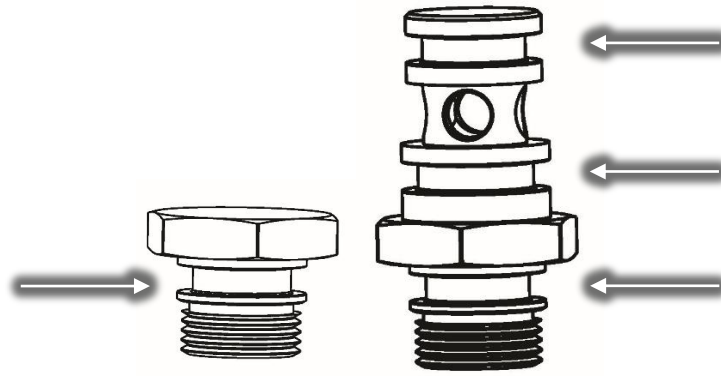

Figure 3 – O-Ring Grooves
6. Clean the O-ring grooves in the Plug and SCR Manifold Return Brass Fitting. Refer to Figure 3 – O-Ring Grooves.